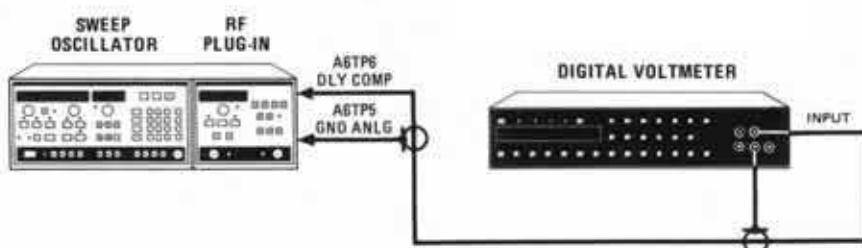

Figure 5-12. Delay Compensation Offset Adjustment Test Setup.
1. Connect the equipment as shown in Figure 5-12 with the DVM connected to A6TP6 (DELAY COMP) and common to A6TP5 (GND ANLG).